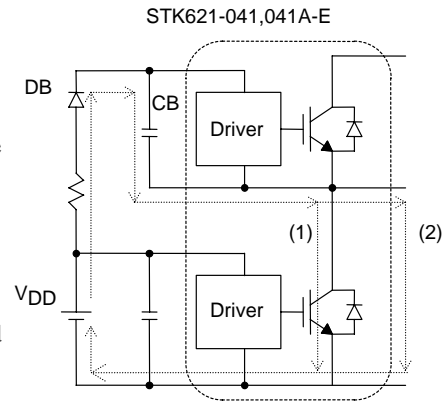

Figure 3 Bootstrap circuit and charge path
(4) VB1, VB2 and VB3 pins
These pins connect the positive power supplies for the upper-side power device pre-driver circuits. The three control power supplies each require an electrically insulated floating power supply. In addition to the method that uses three independent power supplies, this power supply can also be configured using the bootstrap circuit shown in Fig. 3. As shown in this figure, CB has a path (1) that is charged when the lower-side device is ON, and a path (2) for motor regeneration mode. The CB section voltage fluctuates according to the switching frequency and duty ratio of the external control circuit. Therefore, the CB capacitance value must be set in consideration of the voltage fluctuation. DB should use a high-speed type FRD with a fast  $t_r$  and  $V_R = 600V$ . RB is used to limit the rush charging current during CB initial charging. Note that a large rush charging current may cause the internal circuits to malfunction. CB can also be charged before startup by connecting high-value resistors to the output pins and minus pins. (Care must be taken for the withstand voltage and the power.)